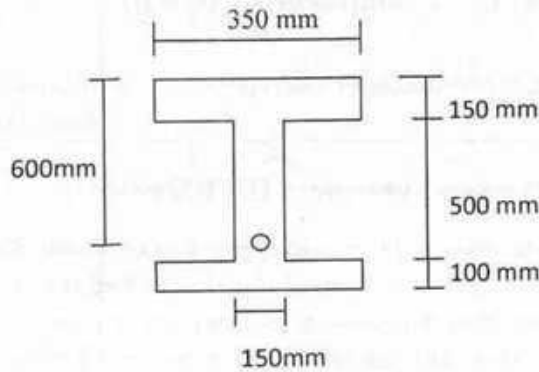

Figure 2
2. In the truss *abcdef* loaded as shown in Fig. 2
4. (a) Determine the ultimate moment capacity of the section (Figure 2) of a prestressed concrete system. Use $f'_c = 38$ MPa, $E_{\text{prestressing}} = 220000$ MPa, $E_c = 30000$ MPa, $f_{pu} = 1860$ MPa, $f_y = 415$ MPa and effective prestress $f_{se} = 1000$ MPa. $A_s = 1400$ mm². (16)
- Determine the effective length coefficients for the columns of the frame shown in Fig. 2. The moments of inertia in in^4 for the columns and beams are shown in the figure. Annexure-1 provides necessary nomographs. 8 ½